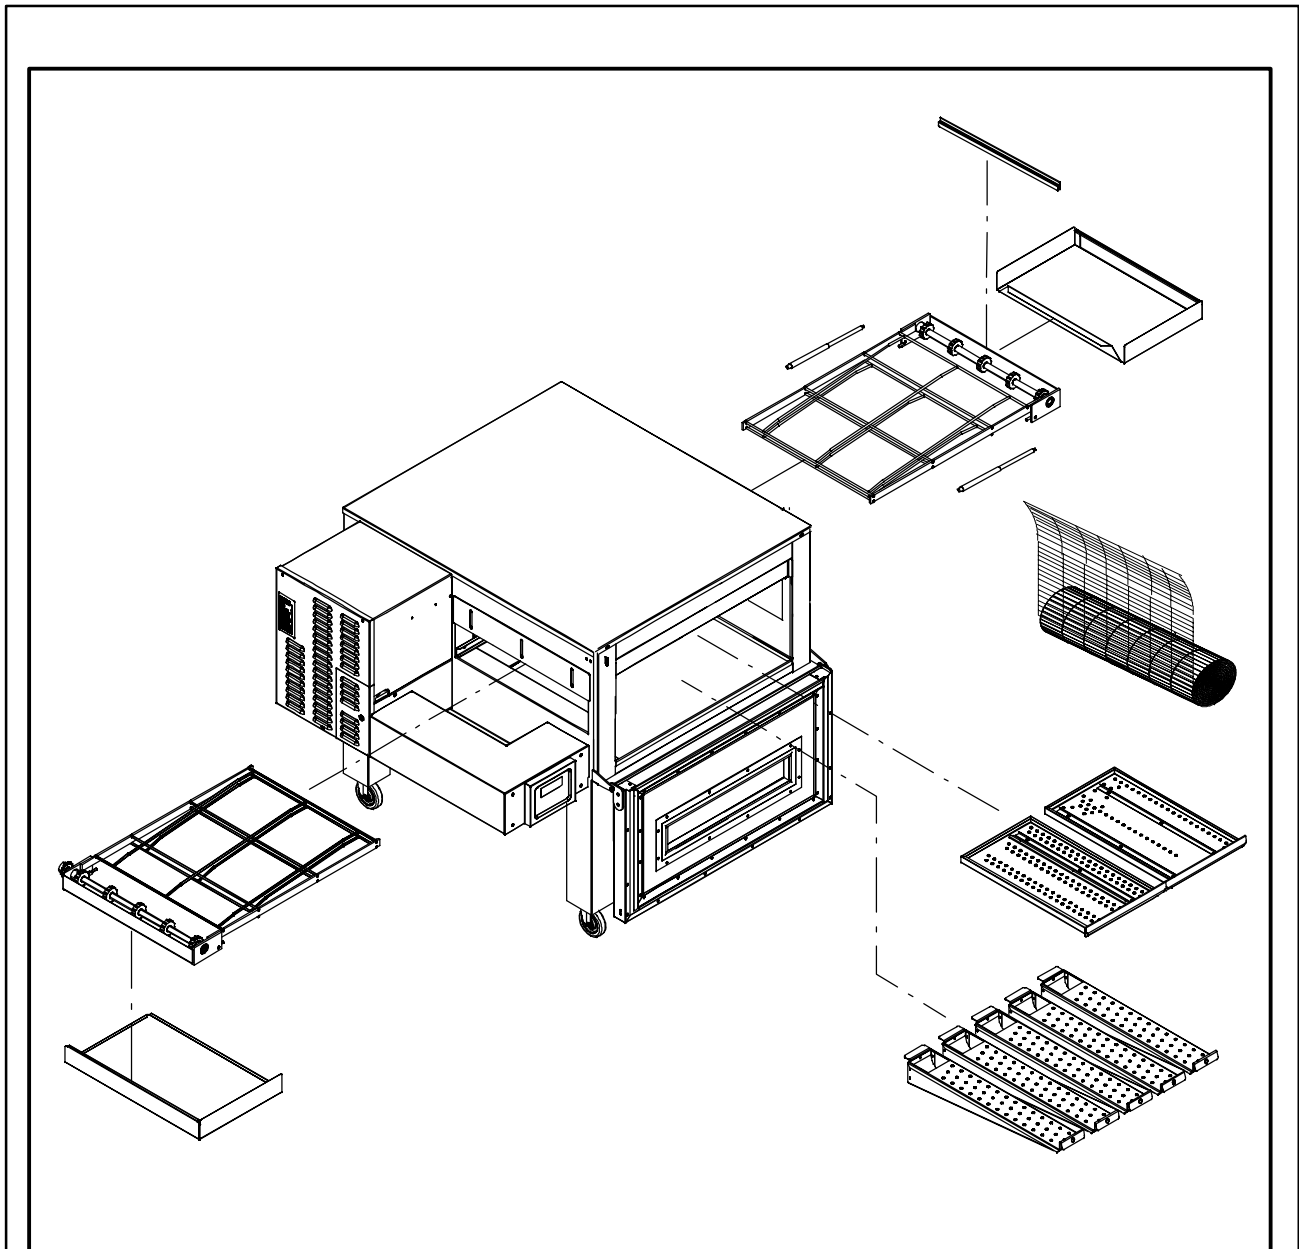

Figure 20
- c.) Slide the belt out from one end. Be sure to roll the belt as shown in Figure 20. Otherwise the belt will be upside down when re-threading.